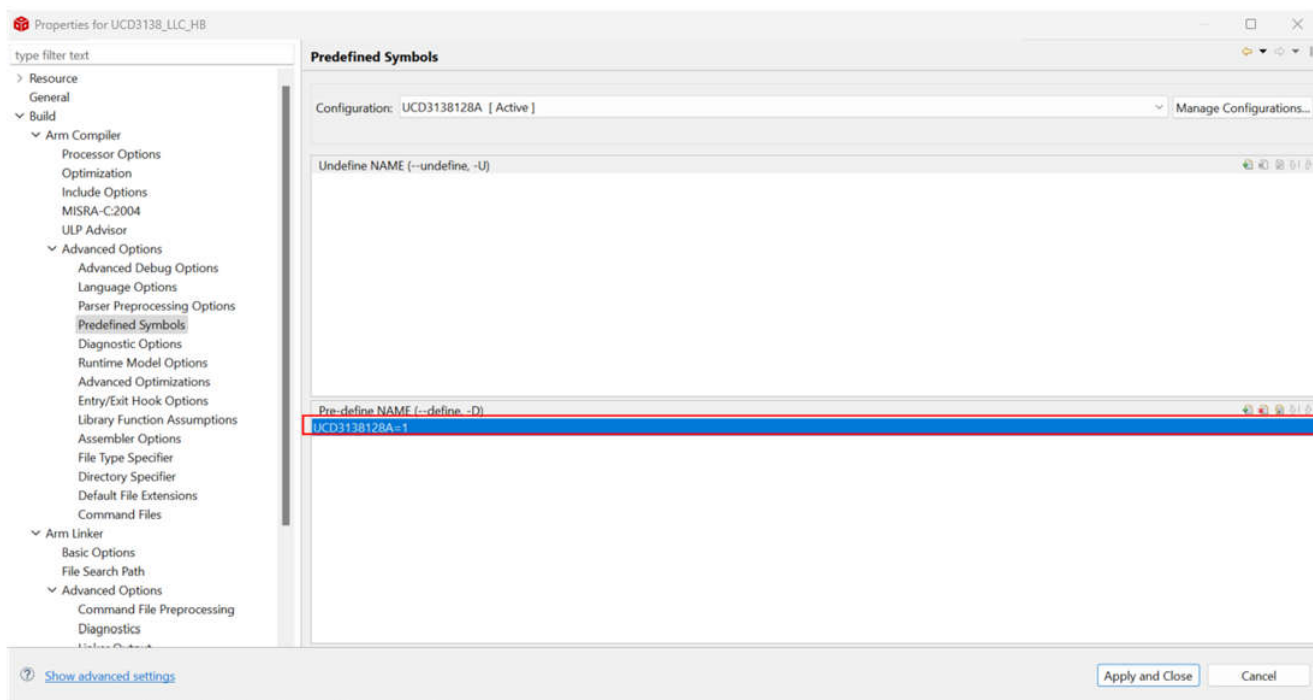

图 2-13. correct Pre-define preprocessor for Build
- 点击 *explorer pane* -> 右击 *the project name* -> *properties* -> *Build* -> *Advanced Options* -> *Advanced Options* -> *Predefined Symbols* -> *Pre-define NAME*, 如图 2-13 设置 UCD3138128A=1。